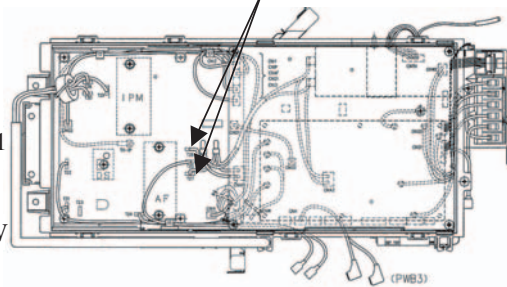

Fig.2 Position of terminal
(Be sure to measure voltage (DC) on both capacitor terminals located in controller back, and check that the voltage is discharged sufficiently.(Refer to Fig.2))